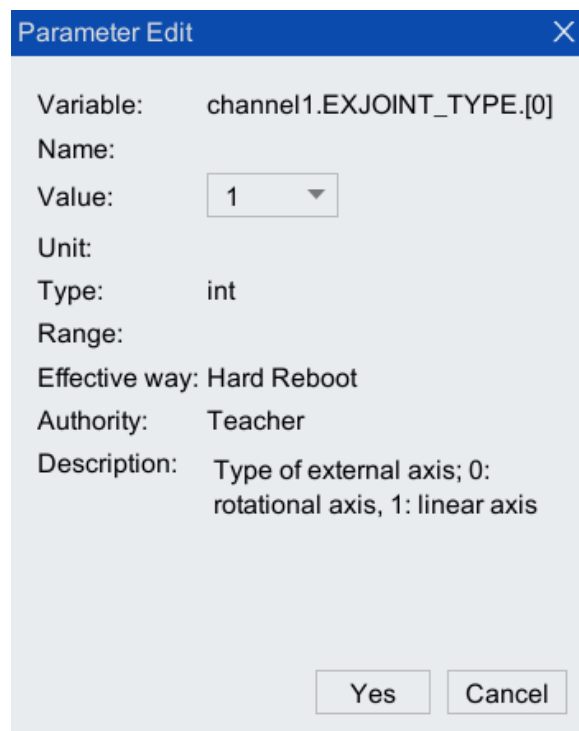

Figure 4-8 External shaft type configuration interface
Step 13. Click <Edit>, the dialog box shown in Figure 4-8 pops up. Configure the parameter in [Value] to 0 (rotation axis), and click <Yes>.